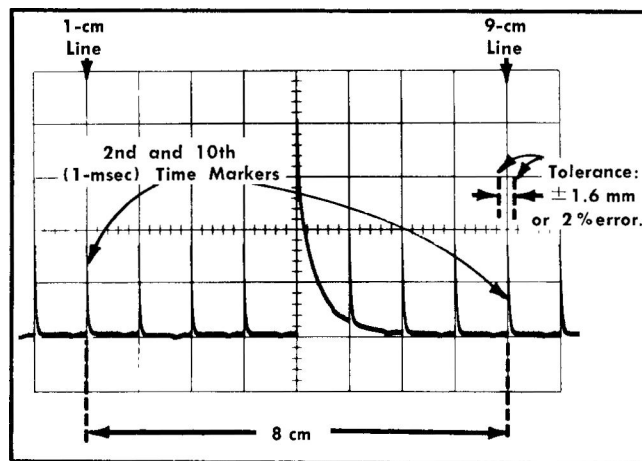
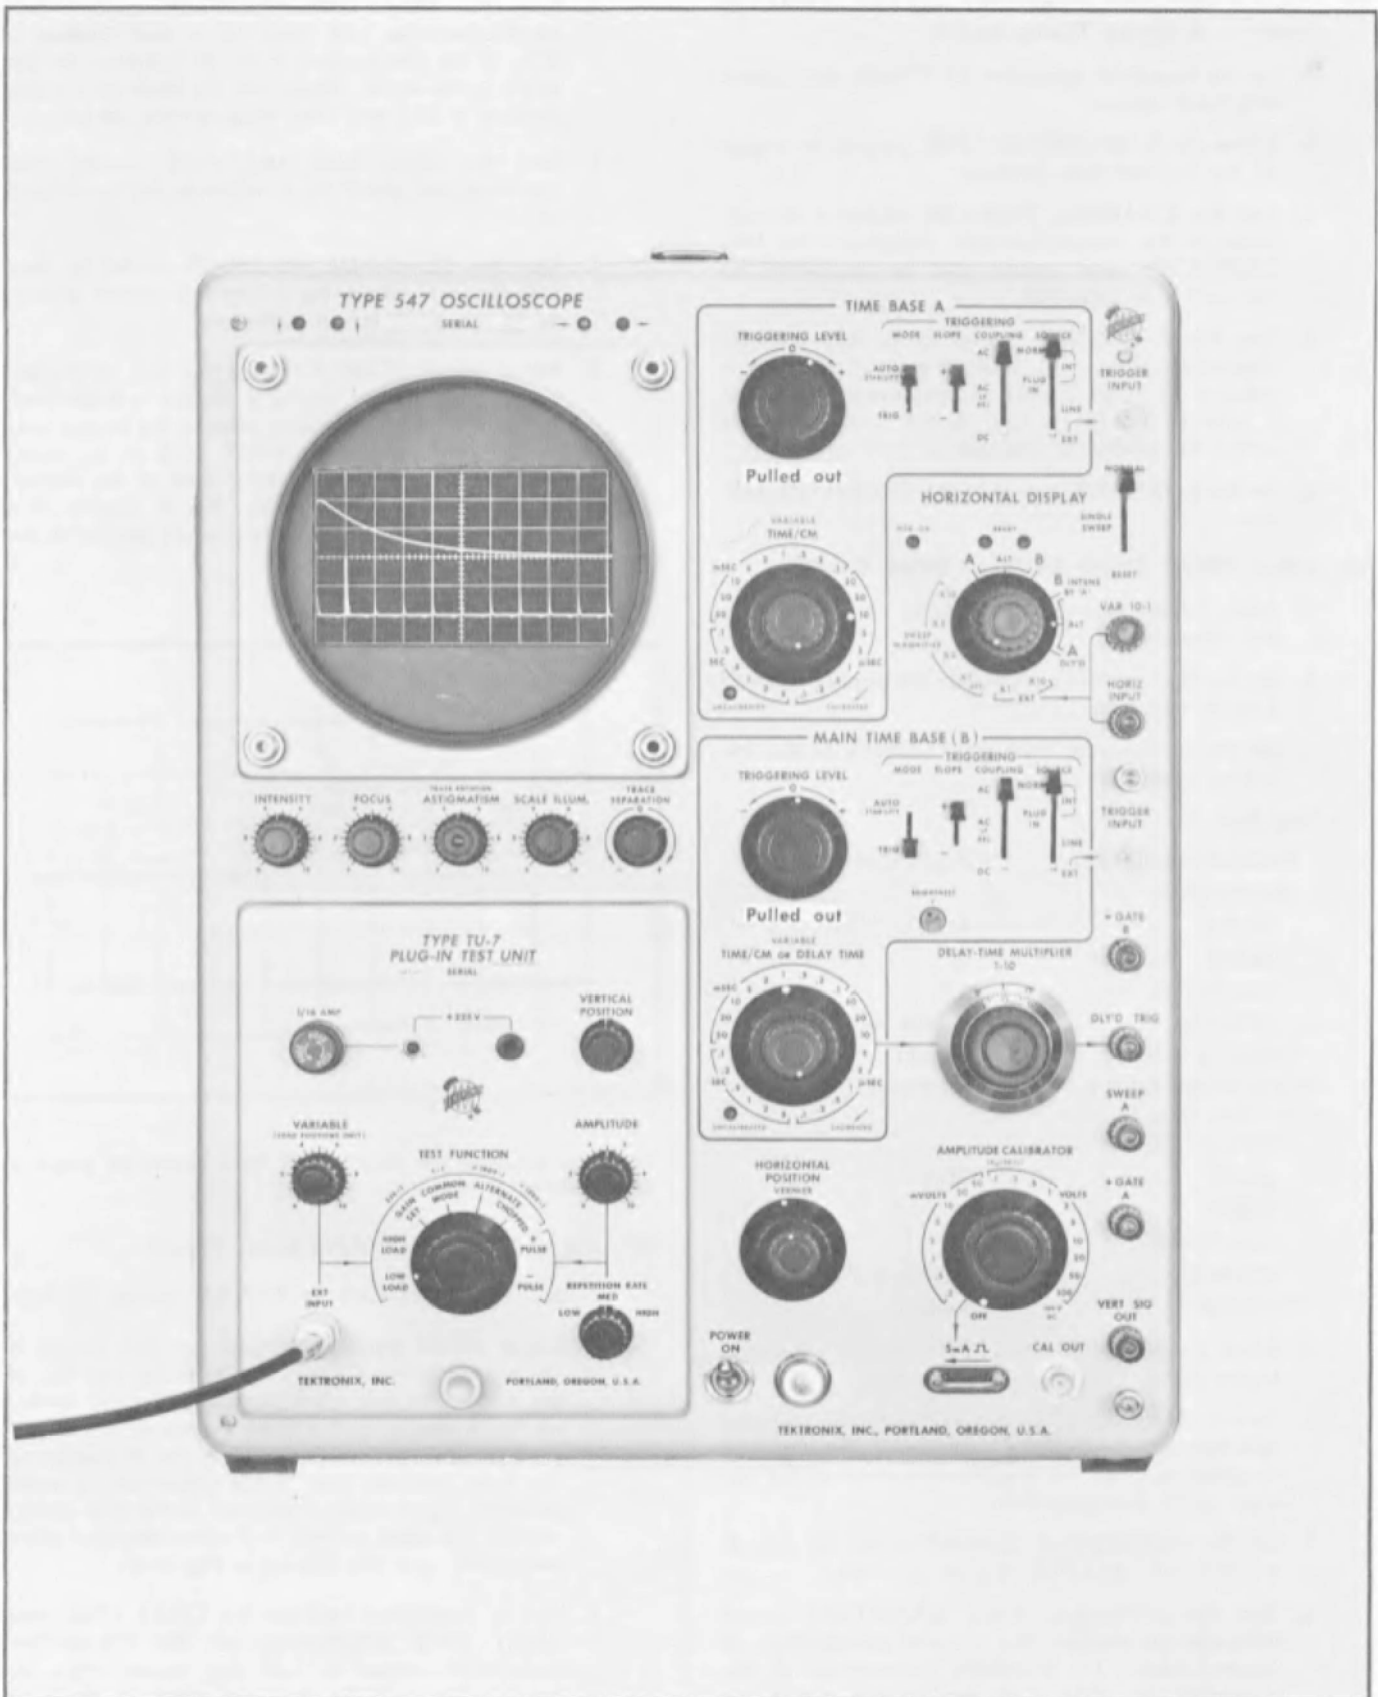

Fig. 5-10. Determining sweep-rate accuracy.
Fig. 5-11. Front-panel control settings at the completion of step 26j.
It is quite difficult to detect small sweep-rate errors on the order of 1% or 2% unless measuring over most of the graticule width. It is therefore recommended that the sweep rates be checked for correct linearity and timing using the center 8 cm and the middle 80% of the display as shown in Fig. 5-10. Measuring over a distance of 8 cm, the adjustment can be made more accurately. Later in the procedure when checking the nonadjustable sweep rates without using the DELAY-TIME MULTIPLIER control, a 1.6-mm error would indicate a 2% sweep-rate error as shown in Fig. 5-11. The marker peak provides an excellent reference point particularly if the amplitude is such that the base line is below the crt viewing area and the tips of the markers are located in the center of the crt. When using the sine waves for markers at the higher sweep rates, set the TU-7 Variable and Vertical Position controls so the lower half of the display is positioned below the crt and the tips of each cycle are near the center of the crt. By increasing the amplitude of the display in this manner each marker or cycle tip appears much narrower.
- Turn the DELAY-TIME MULTIPLIER control to read 1.00. Fig. 5-11 shows the front-panel control settings up to this point in the procedure.